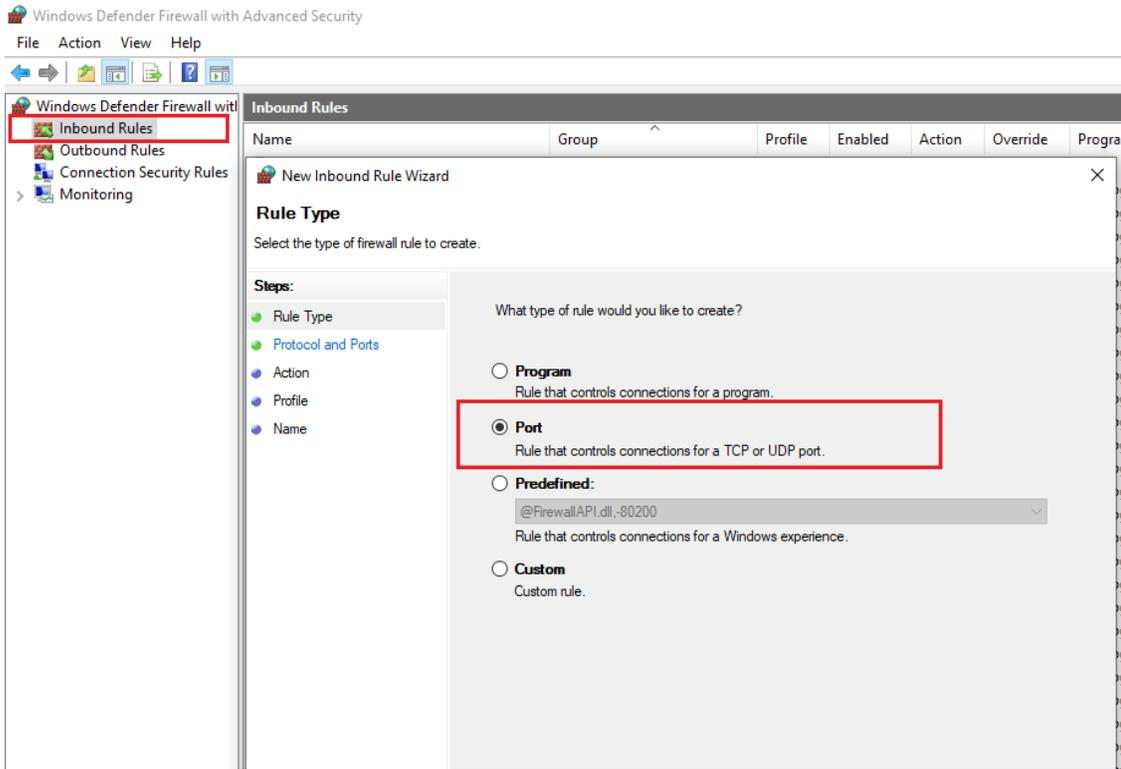

Figure 35
19. Configure an inbound rule on the firewall to allow TCP port 1433. (Figures 35 and 36)